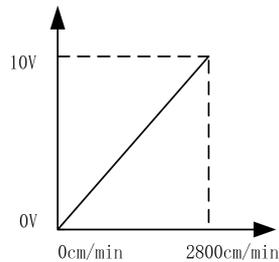

Fig. 4-28 Proportional diagram: preset wire-feeding speed V.S. value from robot to welding machine
1. The correspondence of the set wire feeding speed is shown in Fig. 4-28.